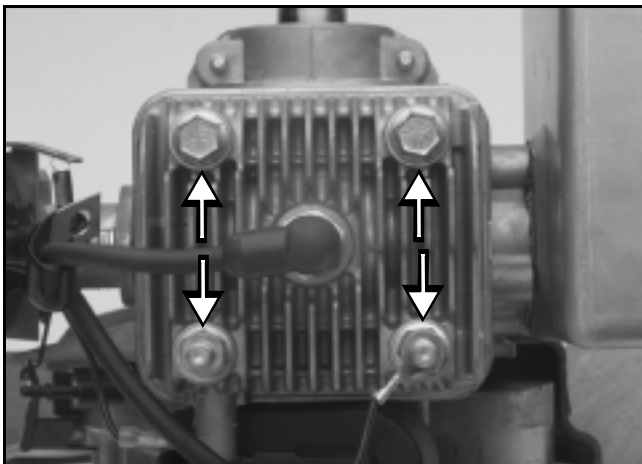

Figure 73
- Remove the two bolts and two nuts retaining the cylinder head to the block. Remove the head and discard the head gasket. (See Figure 73.)